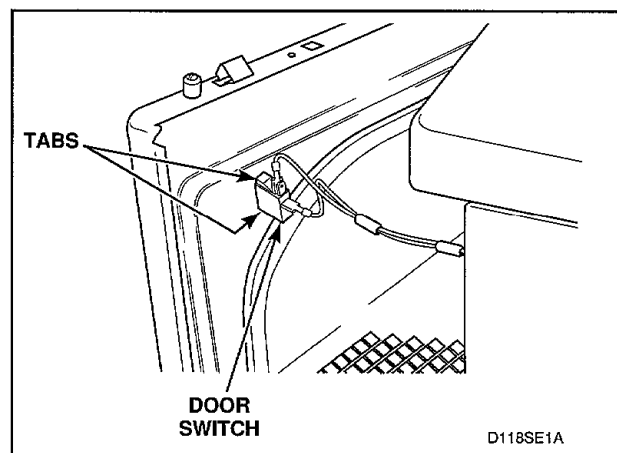

Figure 11
- Disconnect wires from door switch, *Figure 11*.